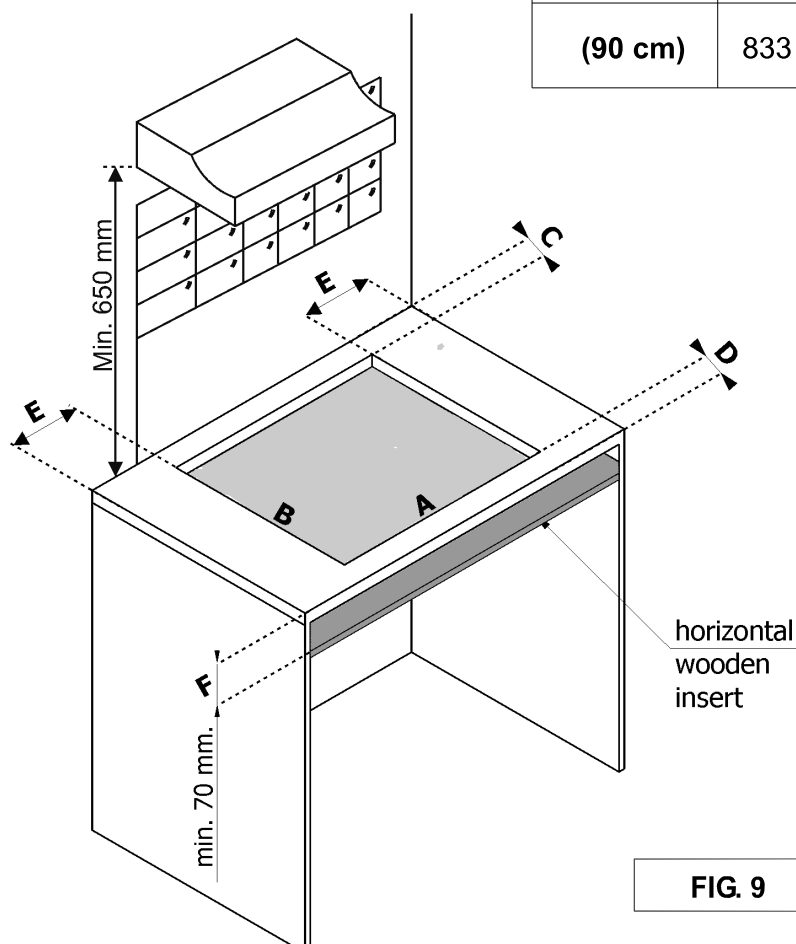

FIG. 9
The measurements of the opening made in the top of the modular cabinet and into which the hot plate will be installed are indicated in either fig. 9. Always comply with the measurements given for the hole into which the appliance will be recessed (see fig. 9).
- In order to avoid accidental touch with the overheating bottom of the hob, during the working, is necessary to put a wooden insert, fixed by screws, at a minimum distance of 70 mm from the top (see fig. 9).